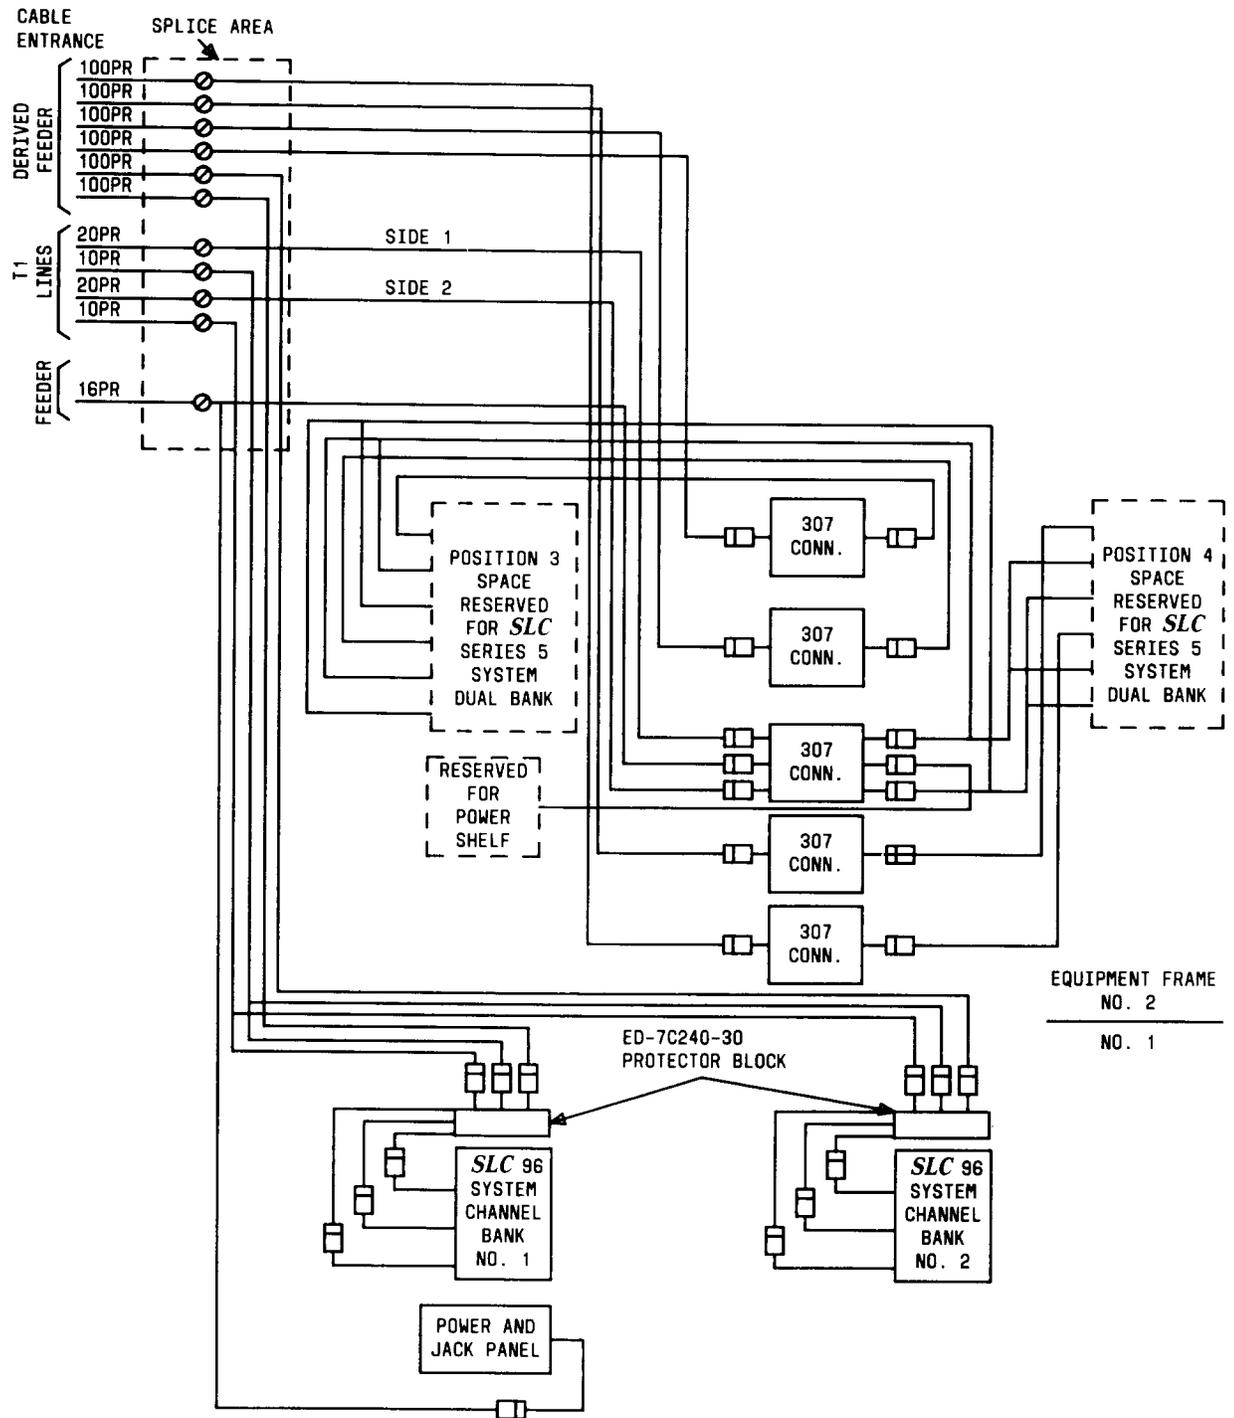

Fig. 4—Intermediate Cabling and Interconnection, 80C Cabinet (Phase 0)
16. From work order, verify that digital line pairs, derived pairs, and miscellaneous pairs have been properly connected to outside plant cables and/or cross-connect field (Figure 4).